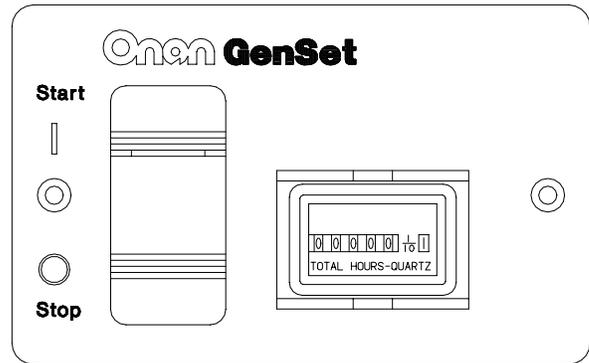

FIGURE 7. REMOTE START/STOP SWITCH AND HOUR METER
- Remote start/stop switch with indicator lamp and hour meter (Figure 7).